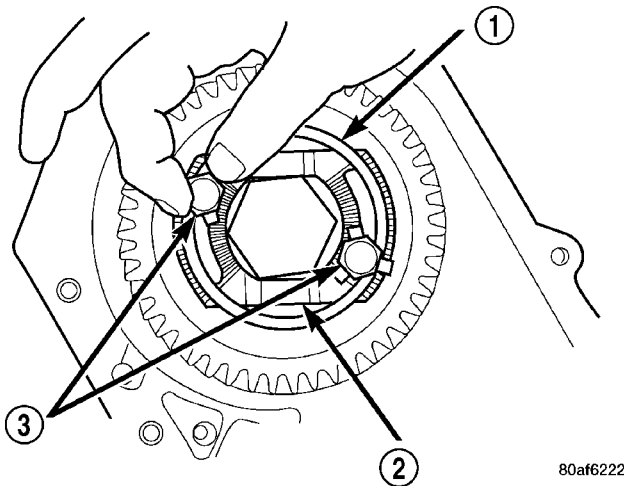

Fig. 63 Remove Strap Bolts
(47) Bend output gear retaining strap ears flat to allow bolt removal.
(48) Remove output shaft stirrup strap bolts (Fig. 63).